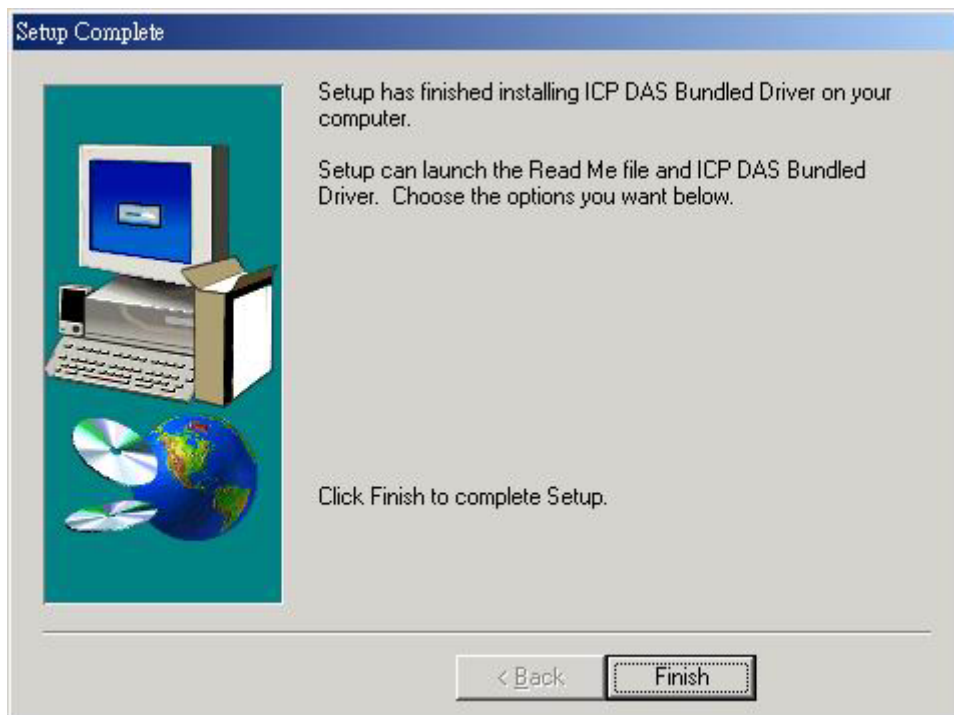

Fig 1-5. Click button “Finish” to complete Setup
Step 8: After successfully installing the software, please click button “Finish” to complete setup. Refer to Fig 1-5.